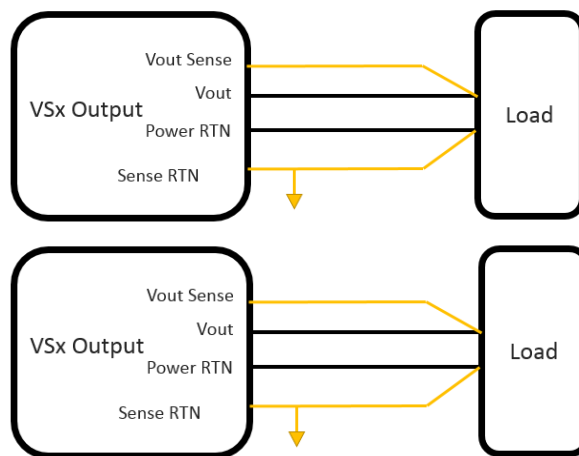

Figure 3: M4465 Sense line connection
*Sense Lines* are provided for VS1, VS2 and VS3 output to compensate line voltage drop. *Sense Lines* proper connection is shown in Figure 3.